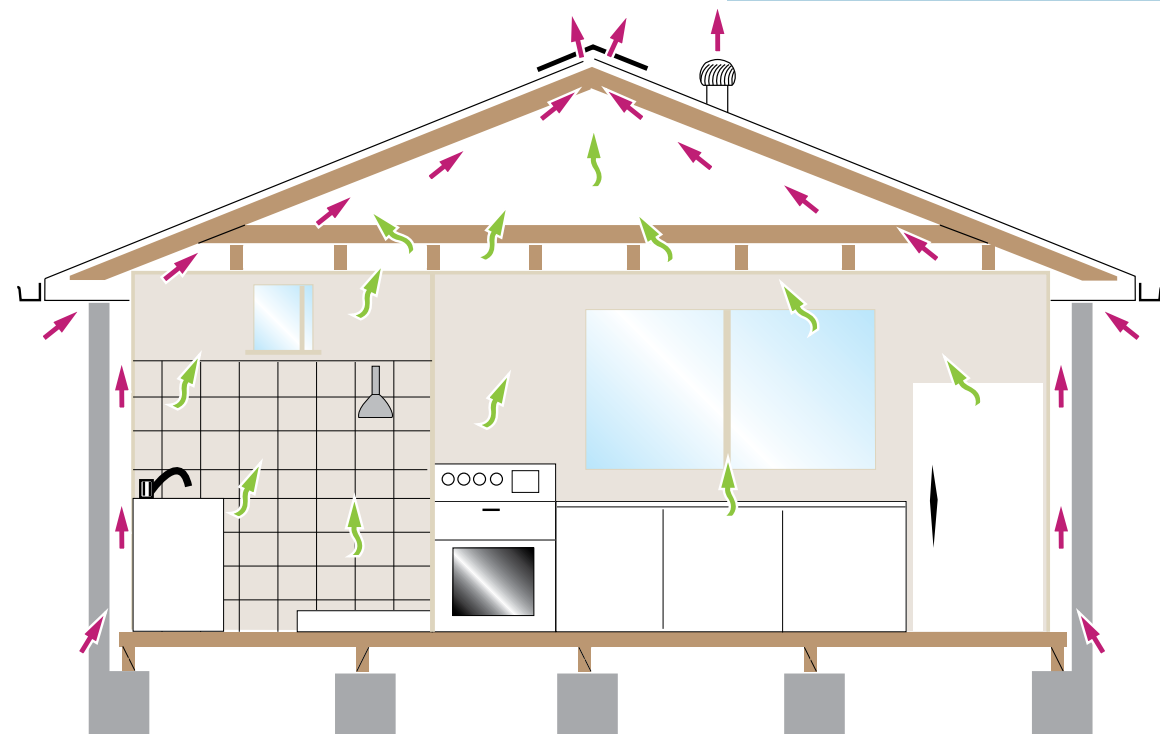

FIGURE 2 Condensation and ventilation
- Install eave vents, gable vents and roof ventilators in the roof cavity [Refer to Figure 2]